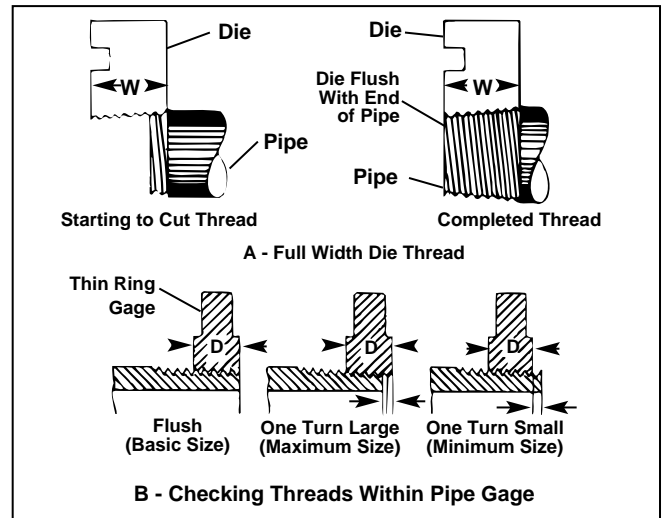

Figure 11 – Checking Length and Depth
10. Check the thread length and depth. (See Figure 11.)
(See Figure 11.)